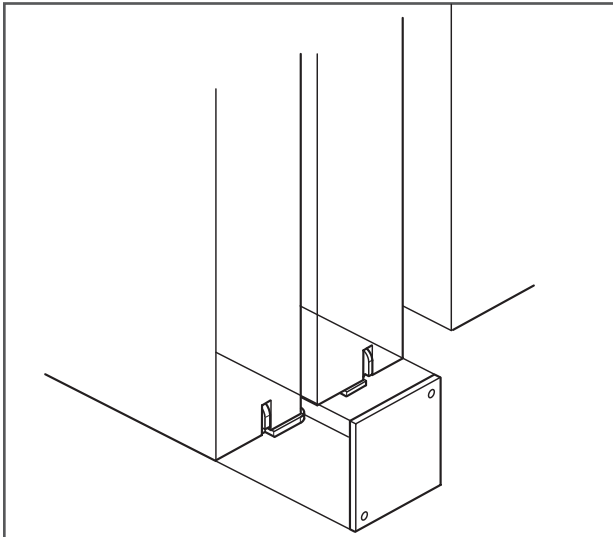

Figure 17
24. Position the end plate (H) on the bottom edge of the panel or door, aligning the plate with the side and bottom edges of the door (Figure 17).